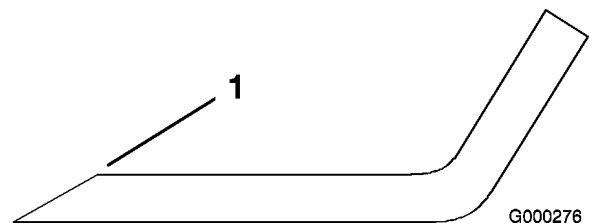

Figure 58
1. Use a file to sharpen the cutting edge at both ends of the blade (Figure 58). Maintain the original angle. The blade retains its balance if the same amount of material is removed from both cutting edges.